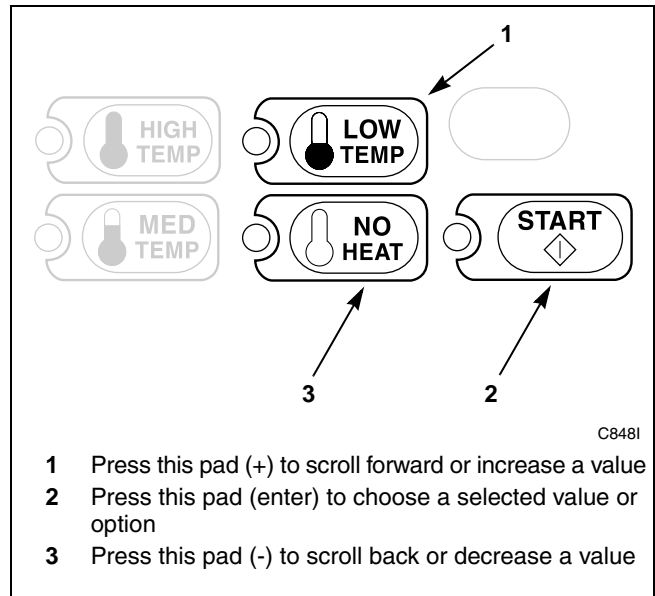

Figure 185
5. Press the LOW TEMP (+) or the NO HEAT (-) keypad to increase or decrease the current number of seconds displayed in the VFD to the desired number of seconds. Refer to *Figure 185*.
**NOTE: The Coin #1 Bonus Time can be set from zero (0) to 59 seconds.**